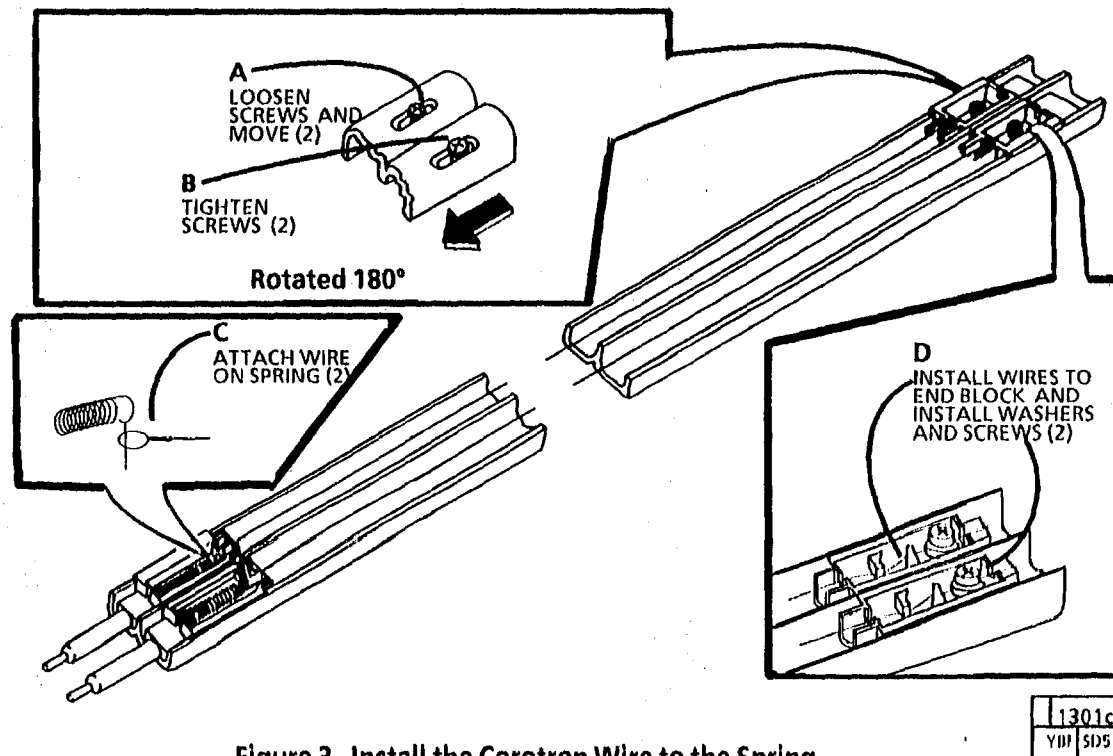

Figure 3. Install the Corotron Wire to the Spring
NOTE: Step A: Move the two screws fully in the direction shown in Figure 3.
2. (Figure 3): Install corotron wire on the spring.